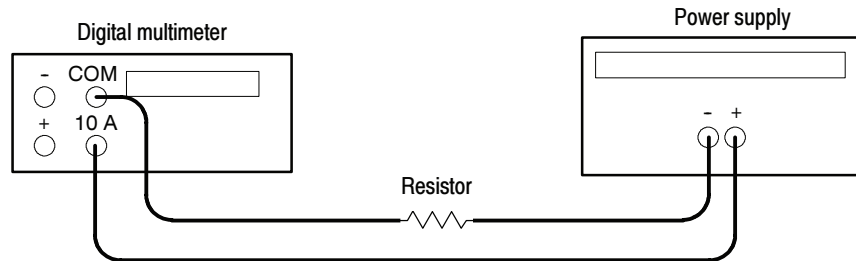

Figure 11: Constant current source test setup
2. Ensure that the power supply output is disabled. Connect the Current Meter and 27 Ω 75 W resistor to the front panel OUTPUT 1 terminals. See Figure 11 for details.
10. Ensure that the power supply output is disabled. Remove the leads from the front panel OUTPUT 1 terminals and connect them to the front panel OUTPUT 2 terminals. Maintain the equipment configuration and polarities shown in Figure 11.
2. Ensure that the power supply output is disabled. Connect the Current Meter and 2.2 Ω 50 W resistor to the front panel OUTPUT 3 terminals. See Figure 11 for details.